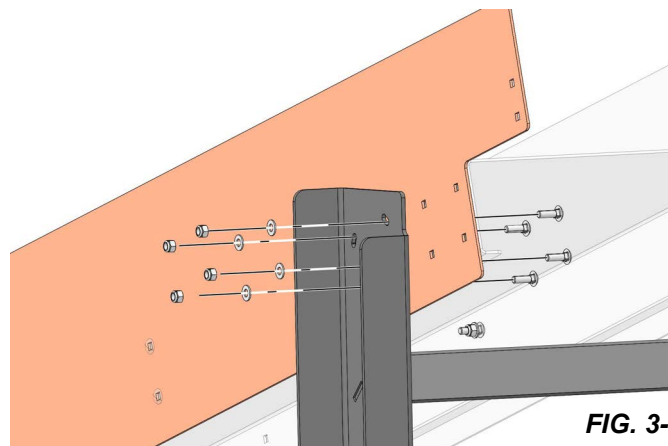

FIG. 3-4
1. Install the assembled incline section to the frame as shown in FIG. 3-4.